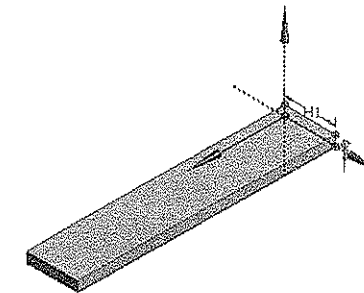

Figure 9-8 Model created on the XY plane
- In the **ANSYS Workbench** dialog box, set the unit to millimeter. Now, create the model on the XY plane, as shown in Figure 9-8.